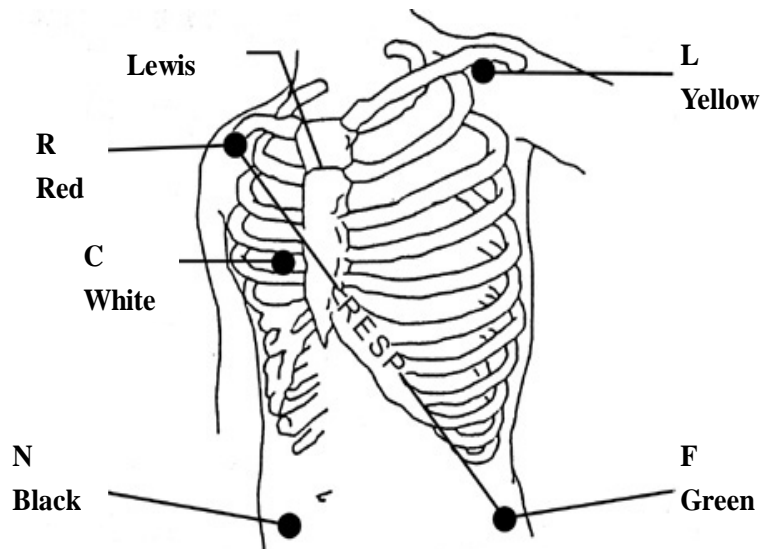

Figure 13-2 Electrode Placement for 5-lead Set
Take the American standard for example, see Figure 13-2:
- ◆ Red (R) electrode - Be placed near the right shoulder, directly below the clavicle.
- ◆ Yellow (L) electrode - Be placed near the left shoulder, directly below the clavicle.
- ◆ Black (N) electrode - Be placed on the right hypogastrium.
- ◆ Green (F) electrode - Be placed on the left hypogastrium.
- ◆ White (C) electrode - Be placed on the chest as illustrated in the Figure 13-2.